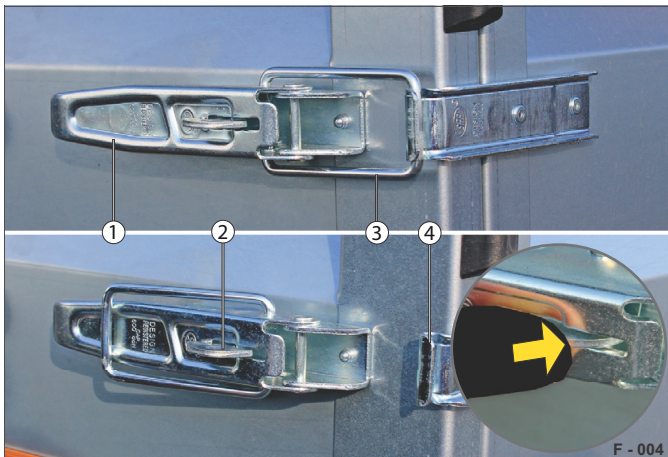

Fig. 5 Tension lock (STEELY)
- Press in the lock (Fig. 5 /2) and pull on the handle (Fig. 5 /1).
- The bracket (Fig. 5 /3) is released.
- Swing open the bracket so that it is released by the latch (Fig. 5 /4).